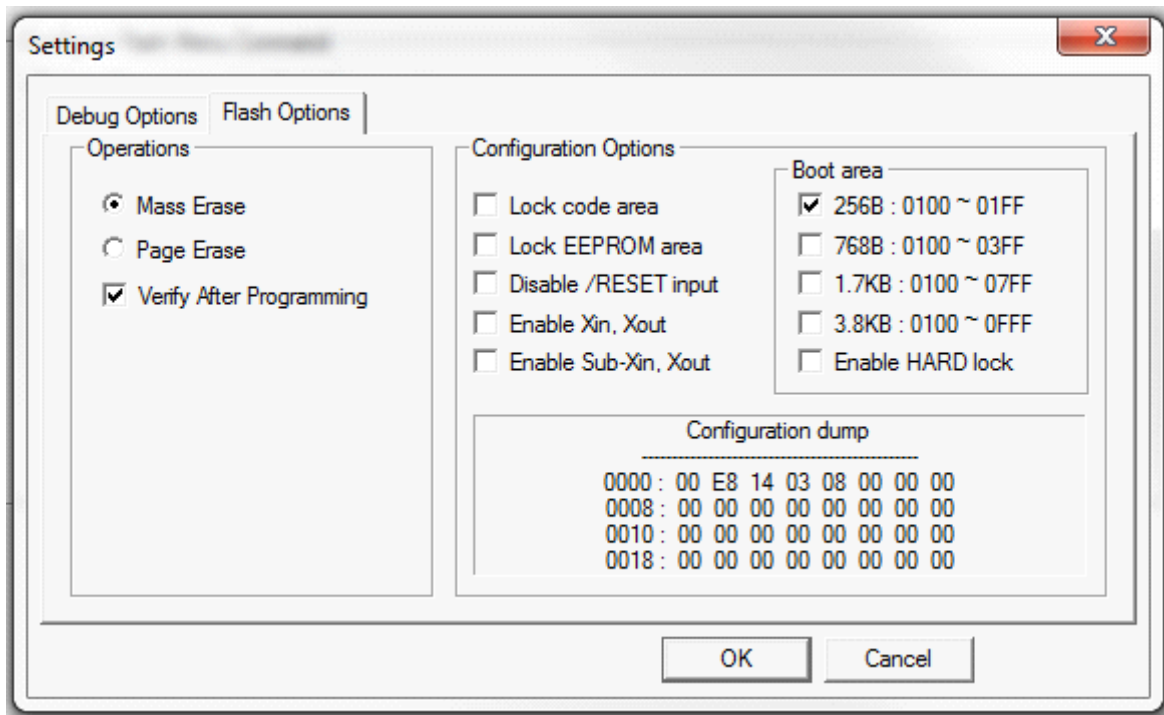

Figure 40. Configuring Additional Flash Options
2. Click the **Settings** button to change any additional Flash options. The Settings dialog will appear, as shown in Figure 40.